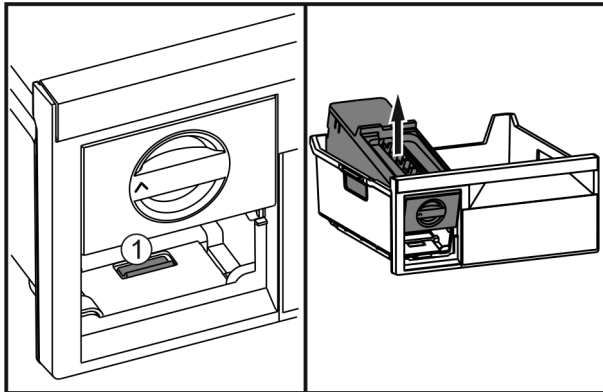

Fig. 57
- Press the lug Fig. 57 (1), lift up the EasyTwist-Ice at the rear and take it out of the freezer drawer.